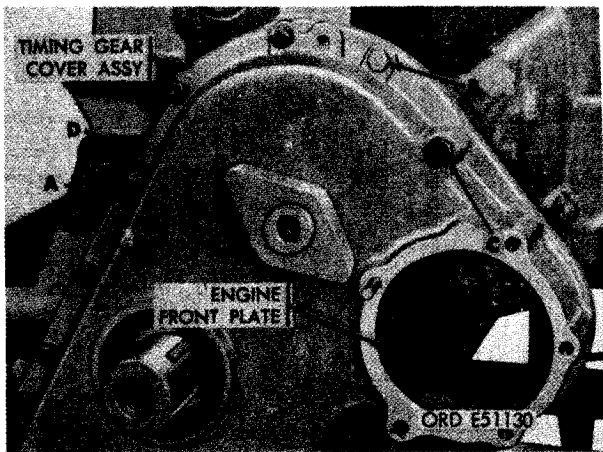

FIGURE 289. REMOVING OR INSTALLING TIMING GEAR COVER ASSEMBLY.
b. Removal. Figure 289. (A) Remove seven 3/8 x 1-1/4 cap screws and 3/8-inch lock washers. (B) Remove 3/8-inch plain nut, 3/8-inch lock washer, and 3/8 x 1-1/4 cap screw. (C) Remove 1/2-inch plain nut, 1/2-inch lock washer, and 1/2 x 2-3/4 cap screw. (D) Remove timing gear cover assembly.